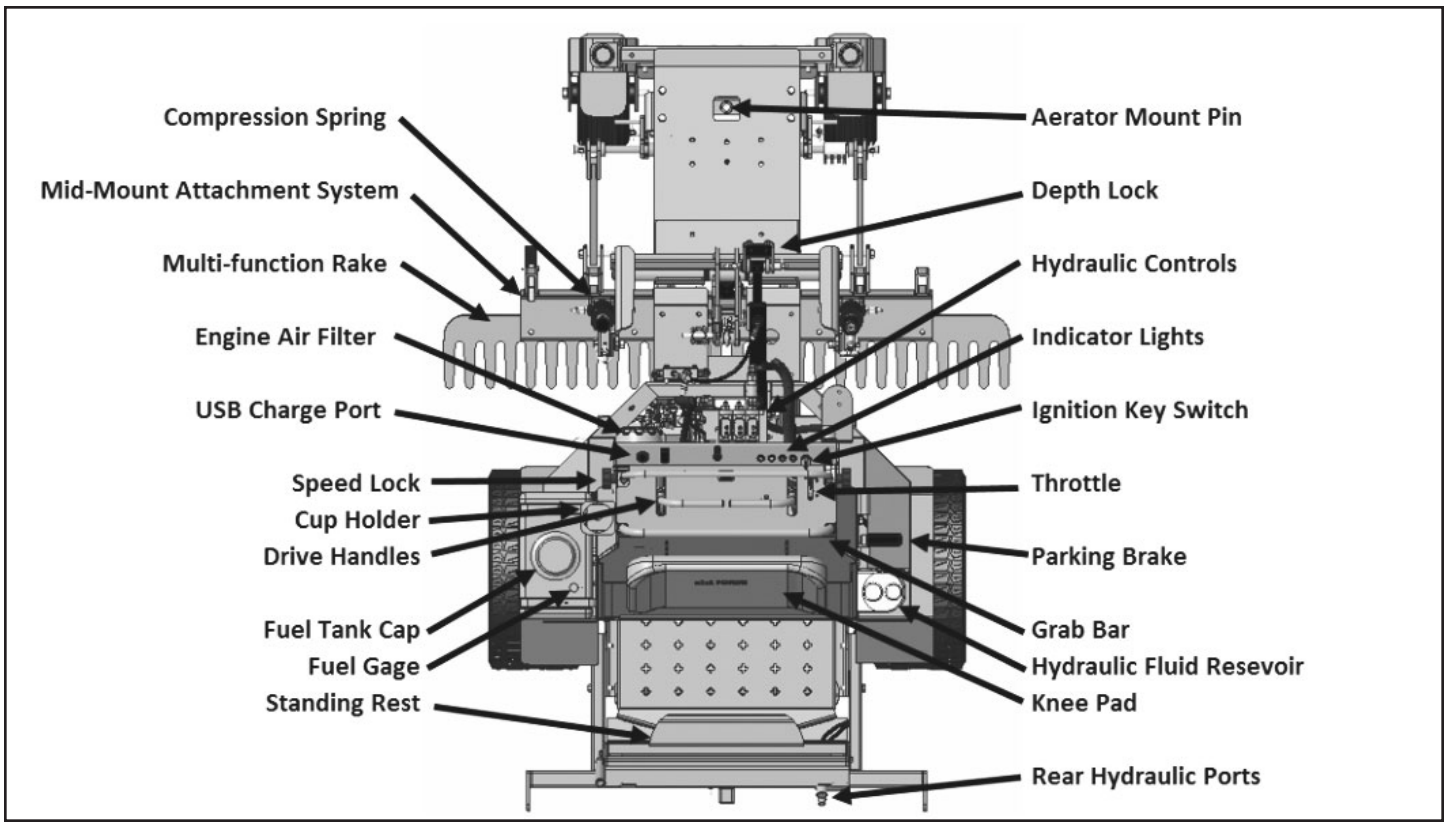

Figure 6: Control layout
- 3.** Flip Rake sections over to extend outward and install hardware with $\frac{3}{4}$ " wrenches. Hardware is provided in the manual canister on the backrest. See **Figure 6** for finished installation.